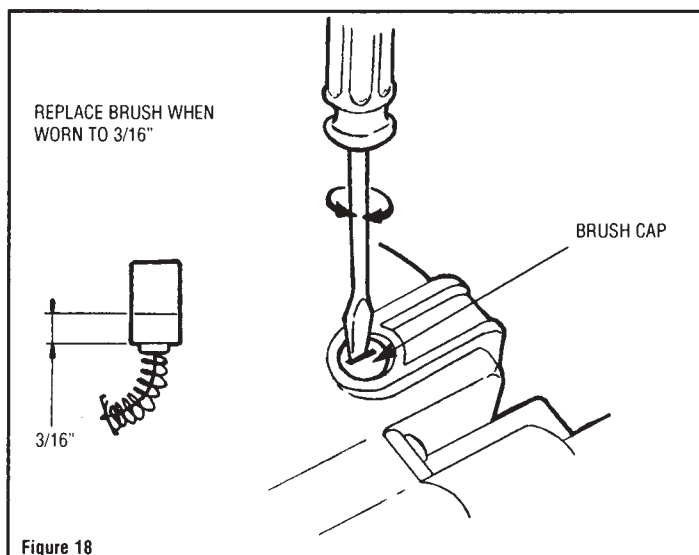

Figure 18
- (4) As vibration through use can cause screws to loosen, periodically tighten screws on the feeder block.
- (5) The motor uses carbon brushes. These should be inspected regularly and replaced as necessary. See figure 18. To replace carbon brushes, remove brush cap, then remove spring and brush assembly. Carbon brushes should always be replaced in pairs. Install new brushes and replace brush cap.
- (6) The tool should be maintained in good condition. For optimum performance, clean and adjust the unit regularly. Wood chips or other materials will affect the tool's performance and consequently it's efficiency. Remove such materials from the feeder block before and after use.
- (7) Dust in the motor should be discharged every 50 hours of operation. A method of discharging the dust is to run the motor in a no-load situation and blow compressed air into the housing through the front air vents causing the dust and air to exhaust together through the rear air vents.
- (8) When tool service is required be sure to use only genuine replacement parts.